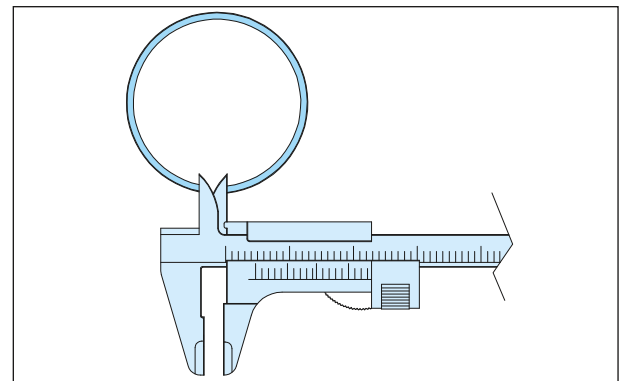

Fig. 3.101
- Inspect for proper tension of the rings by measuring its free end gap. if it is less than the service limit, replace the rings as a set. (Fig. 3.101)